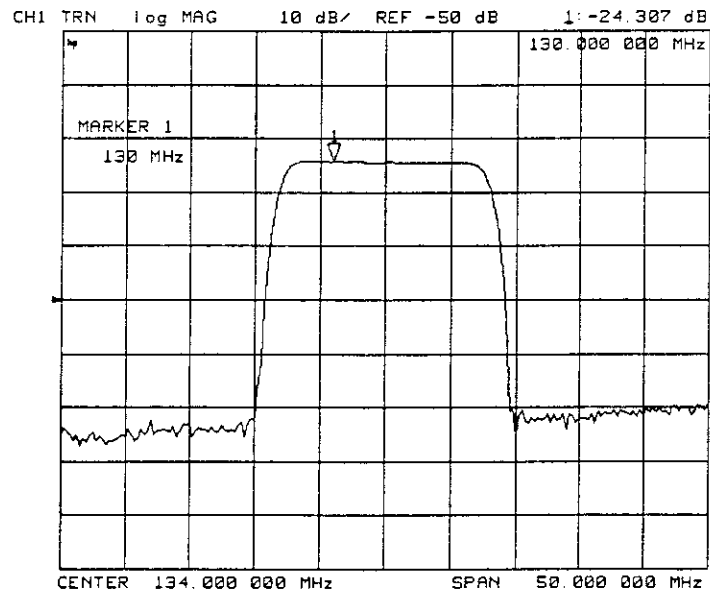

Figure 2-3. Example Measurement of Insertion Loss
3. Press **MARKER** and turn the front panel knob to place the marker at a frequency of interest. Read the device's insertion loss to 0.001 dB resolution as shown in Figure 2-3.